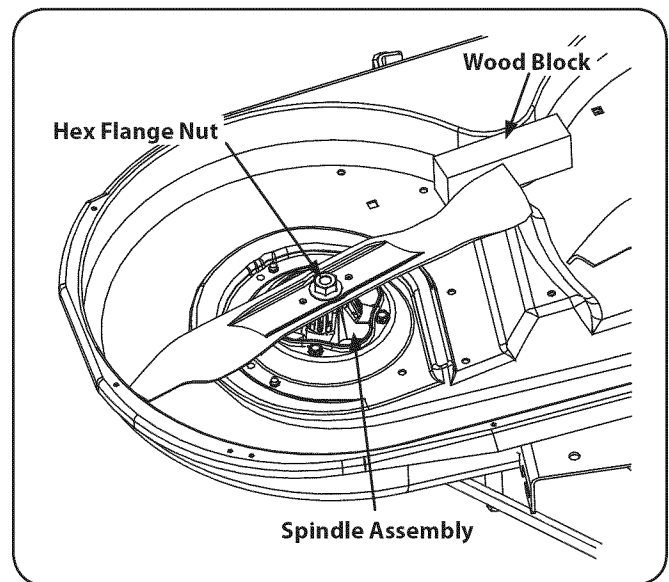

Figure 7-8
2. Use a  $1\frac{1}{16}$ " wrench to hold the hex nut on top of the spindle assembly when loosening the hex nut securing the blade. A block of wood may be placed between the deck housing and the cutting edge of the blade to help in breaking loose the hex nut securing the blade. See Fig. 7-8.